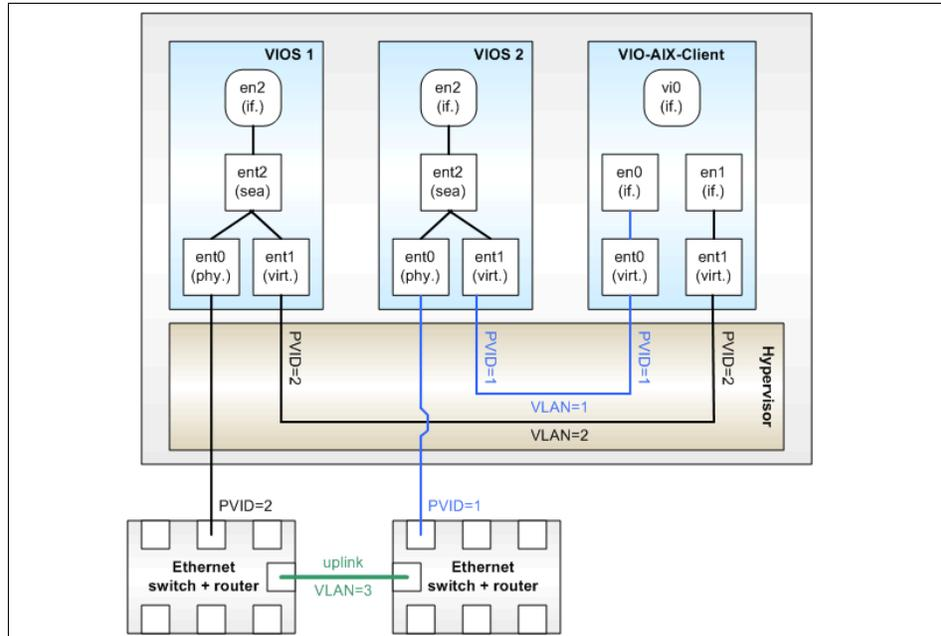

Figure 4-6 IP multipathing in the client using two SEA of different VIOS
- ▶ On layer-3 (TCP/IP), as shown in Figure 4-6 on page 192, with the IP Multipathing (IPMP) feature and one of the following: